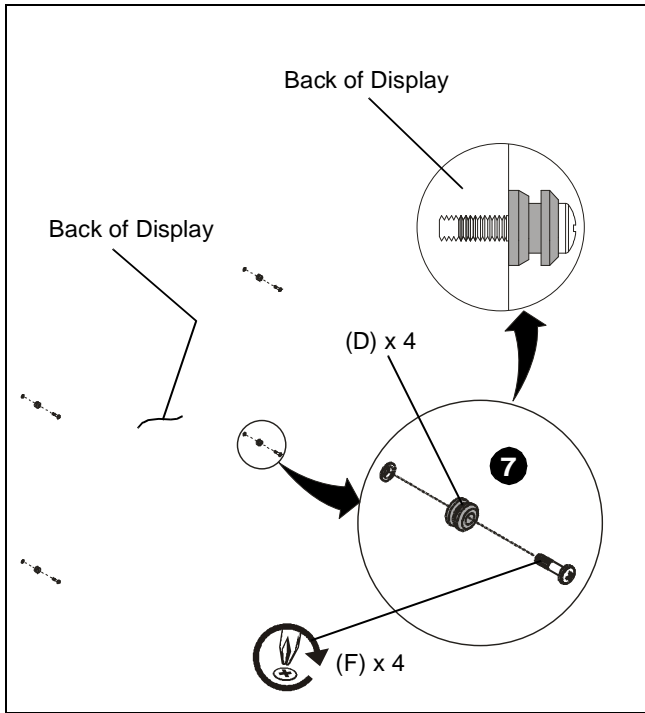

Figure 5
8. Install mounting buttons to display using four mounting buttons (D) and four M6 x 25mm Phillips pan head screws (F). (See Figure 5)